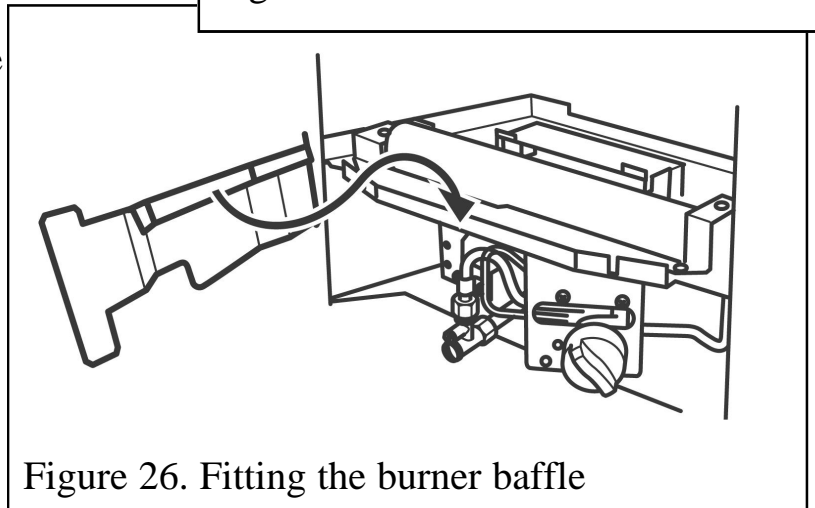

Figure 26. Fitting the burner baffle
5. Fit the burner baffle to the front flanges of the burner. To do this, place the baffle against the front flanges of the burner and lower into position. The return edges on the rear of the baffle should slot over the front flanges of the burner (See figure 26).